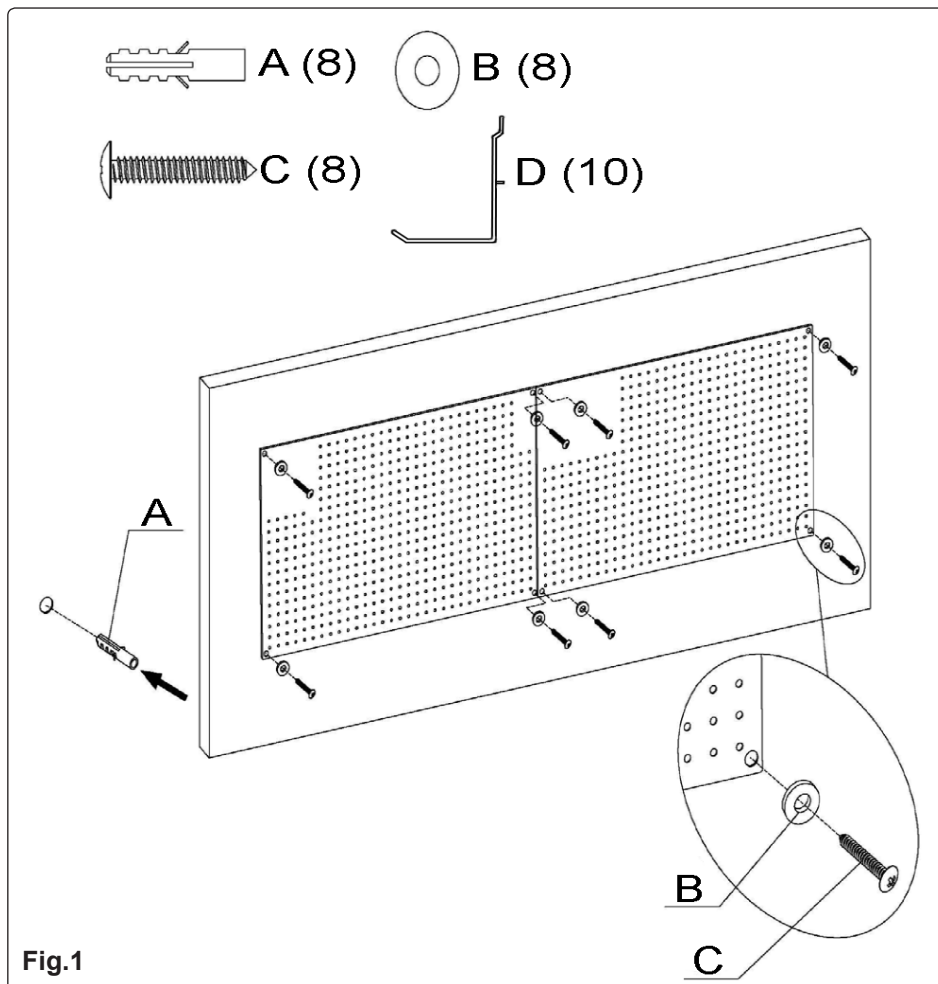

Fig.1
3.1 Fitting the peg board directly to a wall (Fig.1).